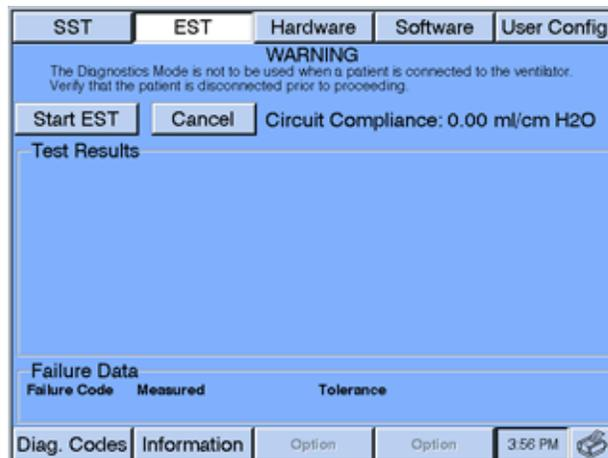

Figure 5-5: Starting EST
3. Touch EST on the diagnostic screen (Figure 5-5).